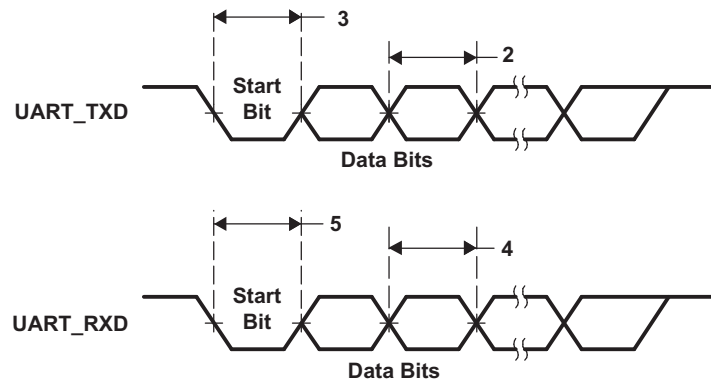

Figure 5-22. UART Transmit and Receive Timing
Table 5-21. Timing Requirements for UART Receive^{(1) (2)} (see Figure 5-22)
- (1) U = UART baud time = 1/programmed baud rate.
- (2) These parametric values are measured at DVDDIO = 3.3 V, 2.75 V, and 2.5 V.
Table 5-22. Switching Characteristics Over Recommended Operating Conditions for UART Transmit^{(1) (2)} (see Figure 5-22)